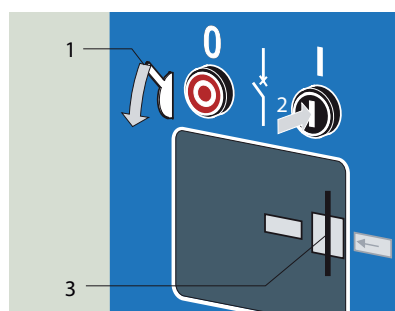

Figure 42
Press the left-hand lever down (Figure 42, 1). To switch ON, press the black pushbutton (right-hand - 2). The circuit breaker is switched ON. The position indicator indicates **ON** (3).